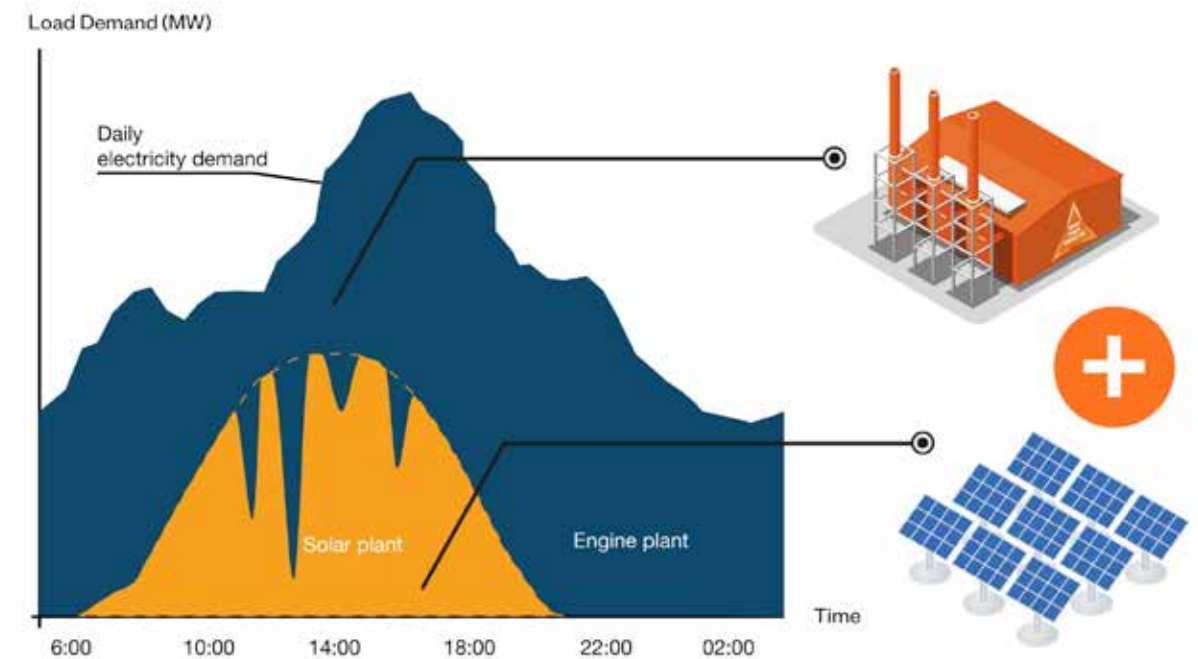

Fig. 1 - The engine plant provides baseline power and balancing while the PV plant displaces fuel.
■ Fig. 1 - Wartsilä REsafe/Pumpsafe unique water lubricated composite bearing, with composite overwind housing and integral flange.
seals and bearings offered by Wartsilä are available as composite units – that is, they are offered as a single system rather than two separate products. They are very lightweight and do not require any lifting equipment in order to install. This makes the process very fast and easy and requires little downtime for the turbine while the systems are put in place. Wartsilä's extremely high operational reliability in water lubricated seal and bearing system also minimises risk of unexpected downtime due to equipment failure. This is why the Loup River Public Power District chose to refurbish and install this technology in their hydro power turbines. Figure 1.
■ Fig. 1 - JOVYLOAD CONCEPT 500kW with transport and shock frame.
frame or vehicle trailer, castors or just feet for stationary use. Operation is possible directly at the load bank, by remote control or via web browser connection. The Modular Kit provides several more options, e.g. additional weather protection like air ducts, load cable sets with different plugs and control units with multiple options. A load bank module of 500 kW with transport and shock frame is shown in Figure 1.